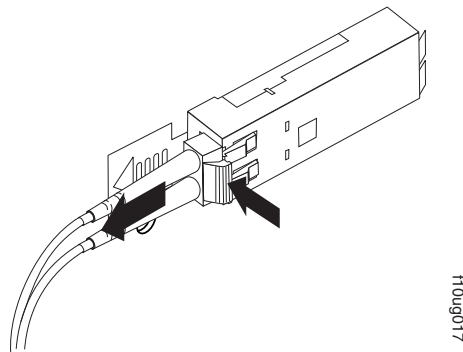

Figure 36. Removing the LC-LC fibre-channel cable
2. Carefully pull on the connector to remove the cable from the SFP module, as shown in Figure 36.